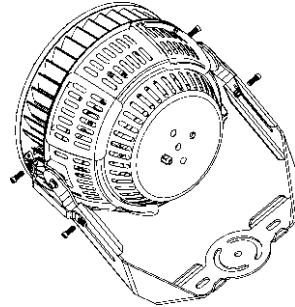

Figure 2
Step 2: Lock the angle fixing piece to the heat sink and bracket, then fix it with screws after adjusting to the required the angle (Figure 2);